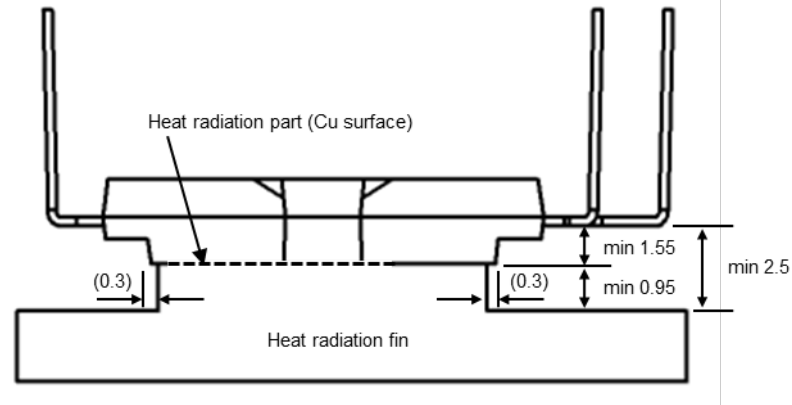

Fig.2-1-2 In the case of using convex fin (unit: mm)
- (6) $V_{DD(Prot)}$ The maximum supply voltage for turning off MOSFET safely in the case of an SC or OC fault. The power chip might be damaged if supply voltage exceeds this specification.
- (7) Isolation voltage Isolation voltage is the voltage between all shorted pins and copper surface of DIPIPM. The maximum rating of isolation voltage of SiC SLIMDIP is $2000V_{rms}$. But if such as convex shape heat radiation fin (2.5mm or more is recommended), it is able to correspond isolation voltage $2500V_{rms}$. See Fig.2-1-2.